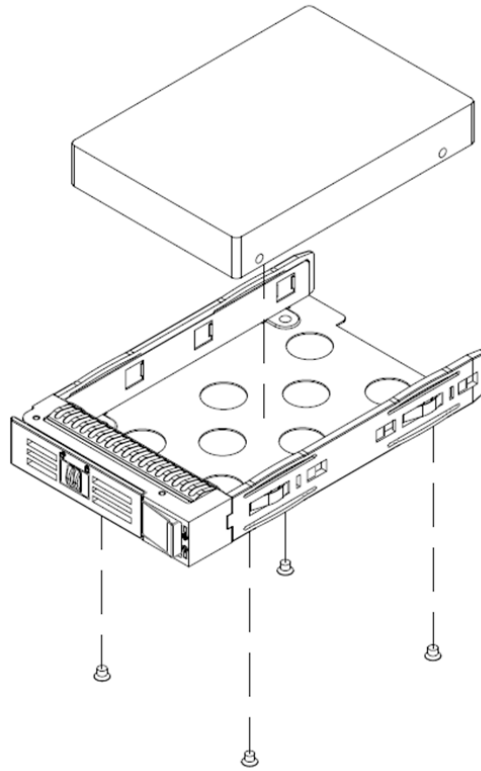

Figure 2.21 Installing a 2.5" HDD/ 安装 2.5 寸 HDD/ 安装 2.5 吋 HDD
2. Slide the 2.5" disk drive into the proper location in the tray and fix it with 4 screws (See Figure 2.21).
2. 将 2.5" 硬盘固定于硬盘抽取托盘上并透过锁附四个螺丝固定(如图 2.21 所示)。